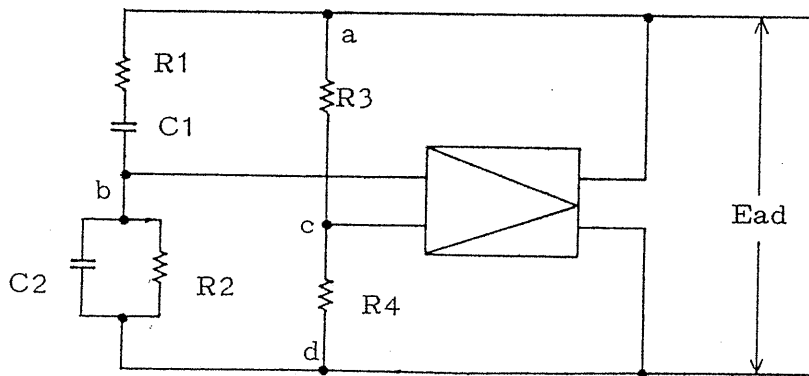

Fig. 2 Wien bridge oscillator circuit
Among low frequency oscillators, RC oscillators which employ R and C as frequency-determining elements are most common. Among RC oscillators, Wien bridge type is most popular. The Wien bridge has many advantages over other oscillation circuits. Its frequency is easily variable, and small distortion. The operating principle of the Wien bridge oscillator circuit is shown in Fig. 2.
Referring to Fig. 2, the phase of Ebc becomes the same with that of Ead when the below condition is satisfied.
It is very difficult for the circuit of Fig. 2 to satisfy constantly the condition of equation (4). Oscillation will not start if the condition of equation (4) is satisfied from the beginning. The conditions of oscillation are determined by equations (1) and (3), and they are not related with the oscillation amplitude. Therefore, the condition of equation (3) must be maintained until the oscillation builds up to the required amplitude. Then the circuit must satisfy the condition of equation (4). To accomplish this requirement, the resistance of R3 or R4 must automatically vary in response to the oscillation amplifier. This is accomplished by using a thermistor as for R3.